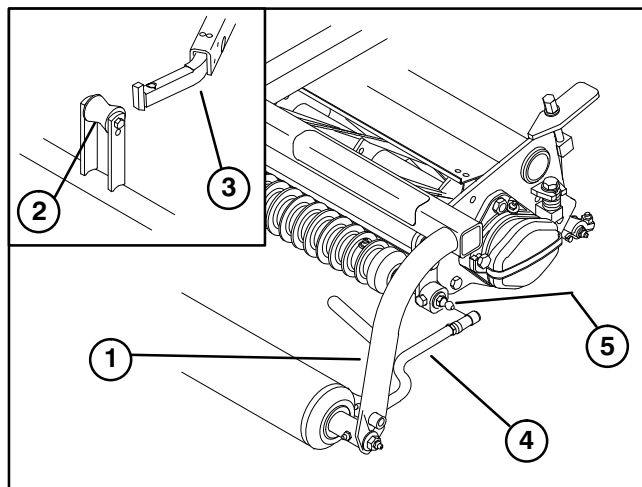

Figure 11
INSTALL CUTTING UNITS (Fig. 11 – 13)
2. Mount a washer and ball stud to each end of front roller on cutting units (Fig. 11).
3. Slide the cutting unit under the pull frame while hooking the lift roller onto lift arm (Fig. 11).